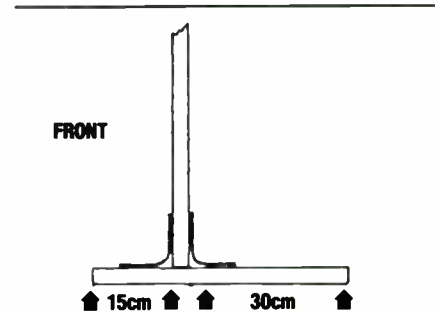

FIGURE 8: Speaker foot.
**Step 10.** The loudspeaker feet were made from leftover pieces of chipboard, halved and fastened to the baffle with small brackets (Fig. 8). Experiment with foam rubber on the back of the baffle to diminish diffractions from the board itself and from the stretching system. I have tried acustilux (synthetic wadding) but it only muffled the sound. I haven't tried foam rubber or felt, but both are highly recommended with dynamic speaker construction.